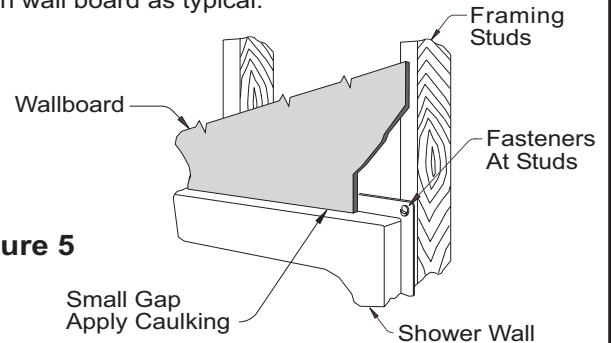

Figure 5
11. Install wallboard along unit. Wallboard should be installed so it covers the mounting flanges and mounting screws or nails. See Figure 5